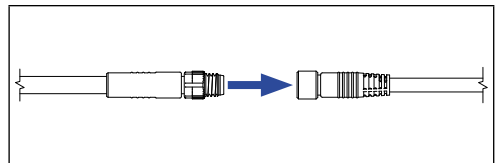

Fig. 10: Connecting the male connector to the female connector of the existing power supply
For R-Series V with EtherCAT®, EtherNet/IP™, POWERLINK or PROFINET the TempoLink smart assistant can be inserted in an existing power supply. Connect the sensor male connector ② to the female connector of your existing power supply that was removed from the sensor (Fig. 10).